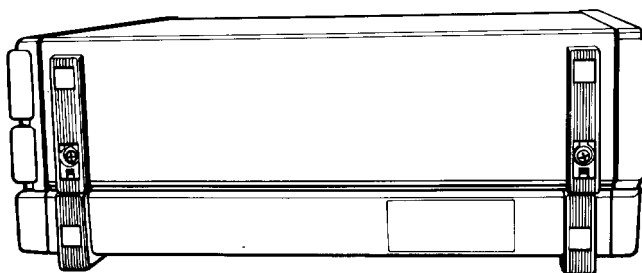

Figure 3-2. Side screws under plastic inserts
3. The top cover is secured by two screws on each side of the computer as shown in Figure 3-2. The two screws on the left side of the unit are covered by small plastic inserts. Gently remove the inserts with a small screwdriver, then remove the screws on both sides of the computer. Put the screws and inserts safely to one side.